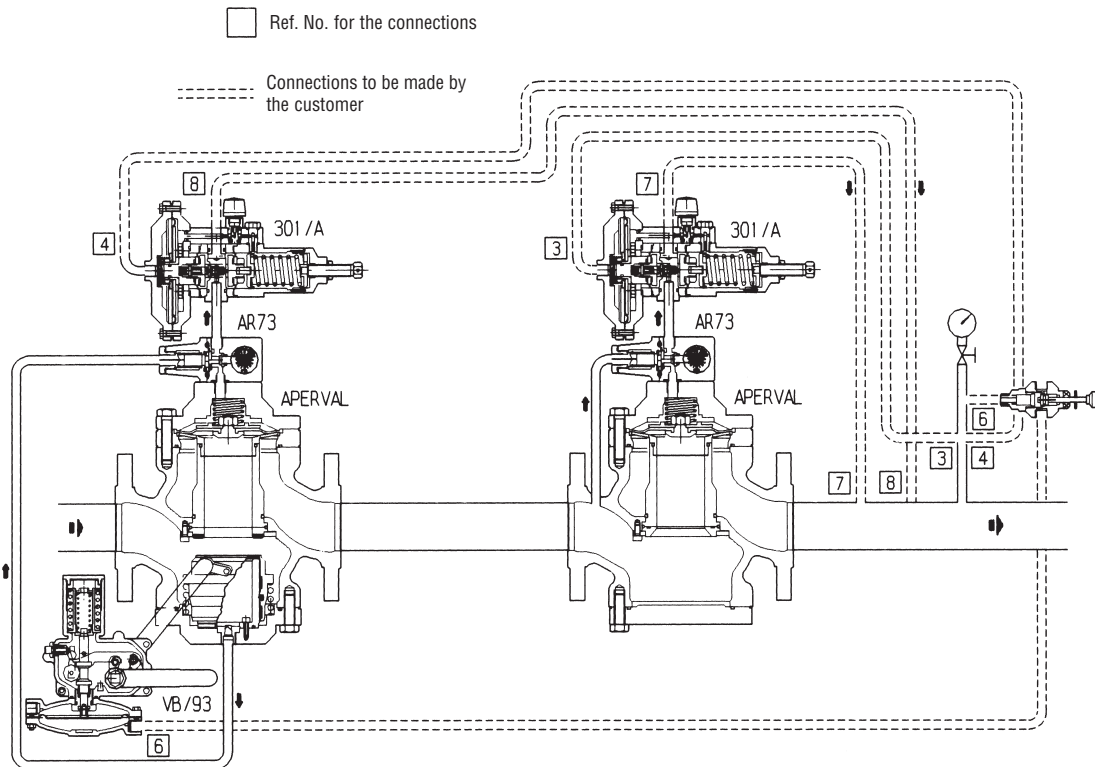

Fig. 13
- Aperval regulator, the same in all ways as the main regulator (fig. 13).